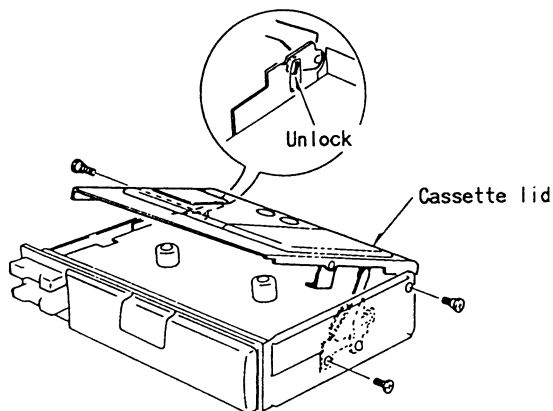

Fig. 2
- 1) Remove 3 screws and release the cassette holder lock. (See Fig. 2)